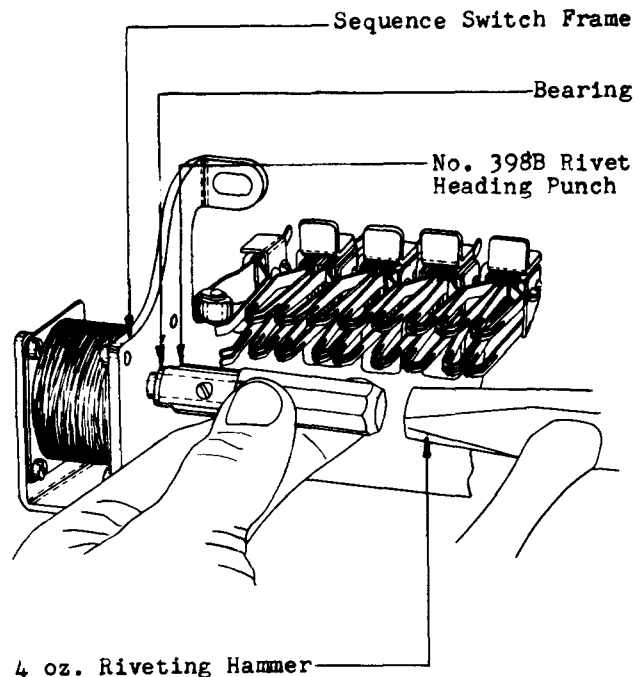

Fig. 20 - Method of Replacing Bearing
3.45 Wrap a piece of dry KS-14666 cloth around the blade of a 3-inch cabinet screwdriver and wipe out any grease which may be in the hole in the frame from which the bearing was removed. Place the new bearing on the No. 398B punch and then place the bearing in position in the hole in the sequence switch frame. Drive the bearing into the frame with the 4-ounce riveting hammer, as shown in Fig. 20, taking care that the bearing is seated against the face of the sequence switch frame and also taking care to hold the handle of the hammer approximately horizontal and to strike the punch squarely.